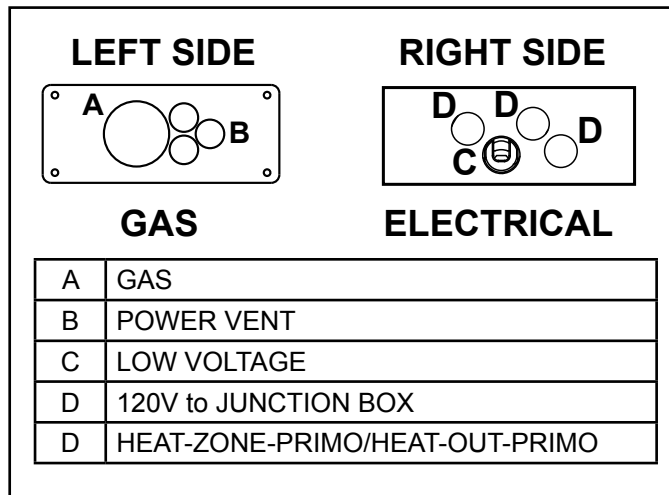

Figure 8.1 Access Plates
- See Figures 8.1, 9.7 and 9.8 for routing electrical power from the appliance to the power vent (PVI-SLP-B or PVL-P-SLP), wall switch and PowerFlow™ Heat Management System.
2. Route the wire through the access plate using a strain relief and down through the wire slot located behind the junction box. See Figure 8.1 and 8.3.